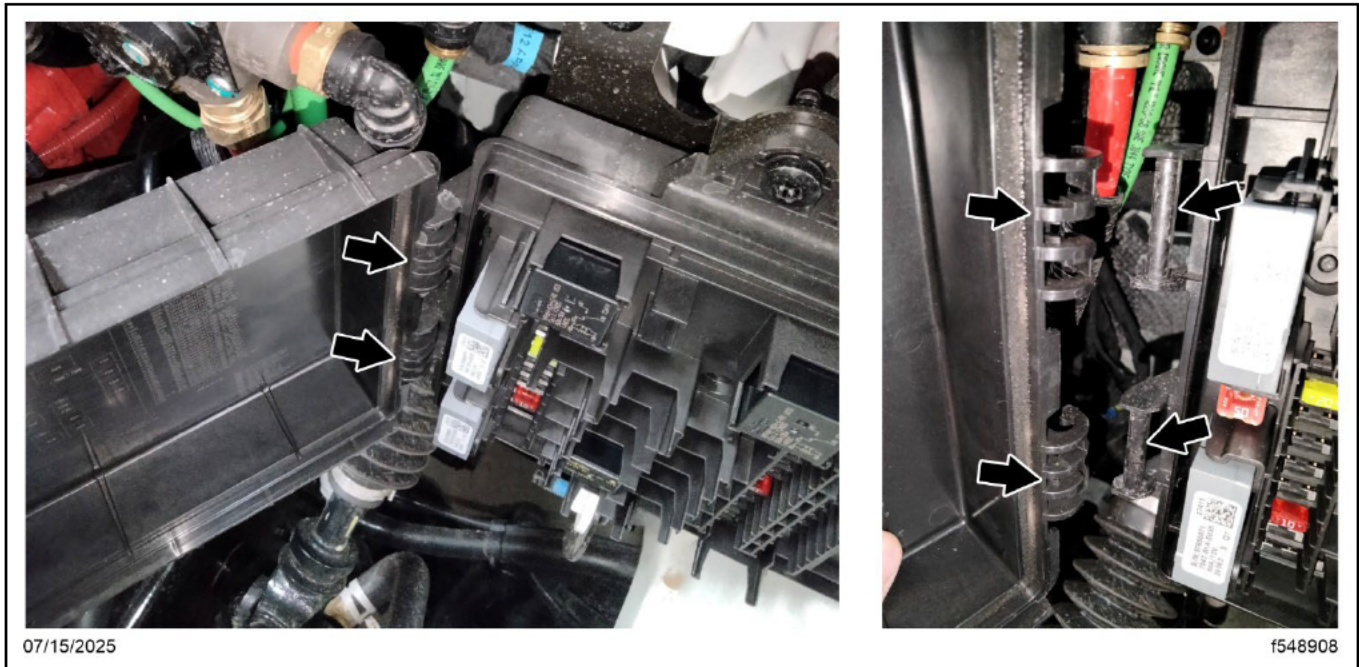

Fig. 4, Removing the VPDM Cover
7. On some vehicle engine configurations, the cover may not open a full 180 degrees. To remove the cover, open the cover as far as allowed, detach the two cover hinges from the VPDM housing, and pull the cover at the hinges to release the cover from the VPDM housing. See Fig. 4.